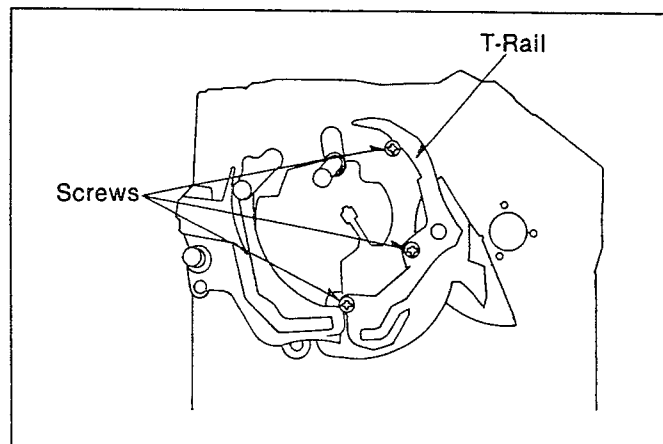

Fig. M14
- (1). Install the T-Rail and then tighten the 3-Screws as shown Fig.M14.